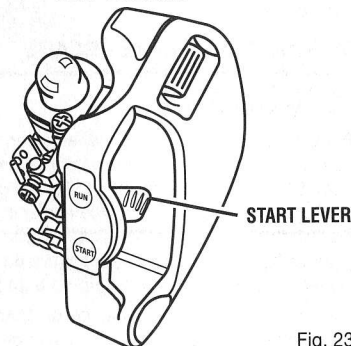

Fig. 23
3. Engine is flooded.	3. Set the start lever to the START position. Squeeze the trigger and pull the rope repeatedly until the engine starts and runs. NOTE: Depending on the severity of the flooding, this may require numerous pulls of the rope. See Figure 23.